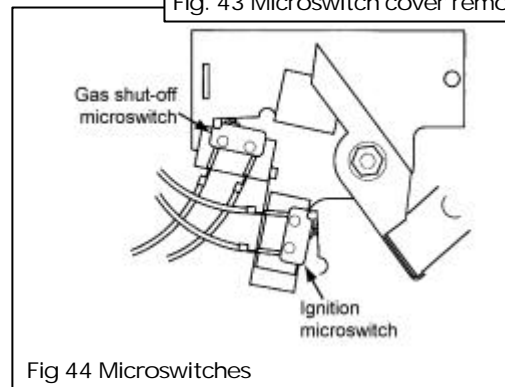

Fig 44 Microswitches
13.1.3 Disconnect the leads from the ignition microswitch (The lower of the two microswitches - See figure 44).
13.2.4 Detach the microswitch assembly by removing two screws (see figure 44).